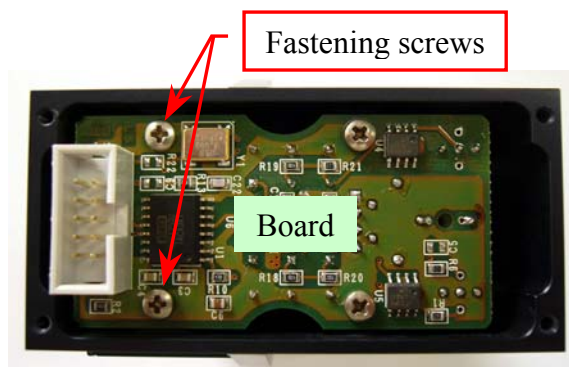

Fig. 69 – Fastening screws of the Sample Channel board
3. Unscrew the four fastening screws of the “Pre-Ampl./ADC Board” of the Sample Channel (**Fig. 69**) and take off - handling with care - the board from its housing on the Photometer.